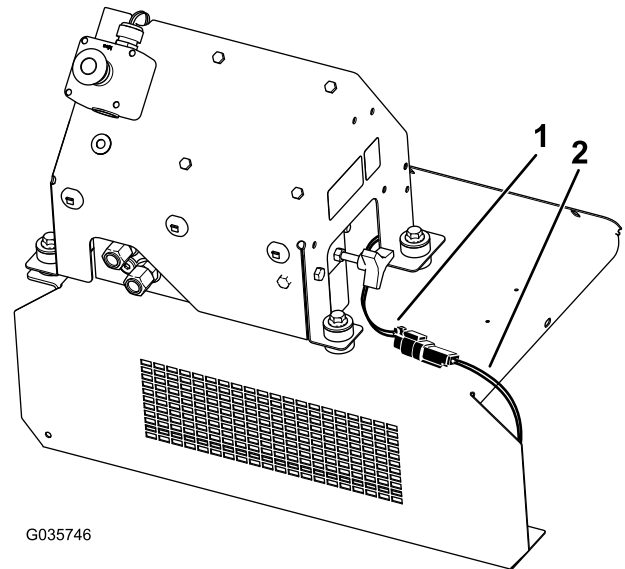

Figure 15
17. Connect the power plug connector into the intermediate harness (Figure 15).